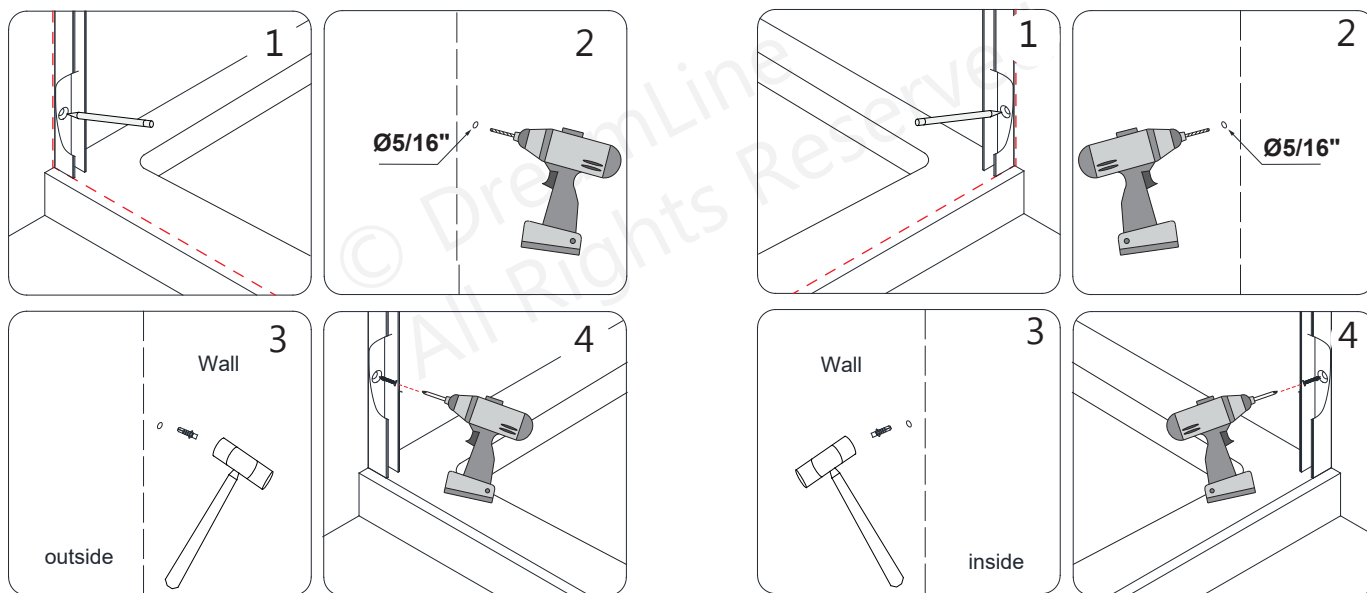

Fig 3
3. Mark the drilling holes on the wall through the predrilled holes in the **Stainless Steel U-Channels (#11)**. Drill the holes in the wall using a **Ø5/16" (8mm)** drill bit and insert the **5/16" Wall Anchors (#07)**. Run a bead of Waterproof silicone along the back of the **Stainless Steel U-Channels (#11)**. Fasten the **Stainless Steel U-Channels (#11)** to the walls using the **Pan Head Screw ST4.2×40 (#08)**. (**Fig 3**)